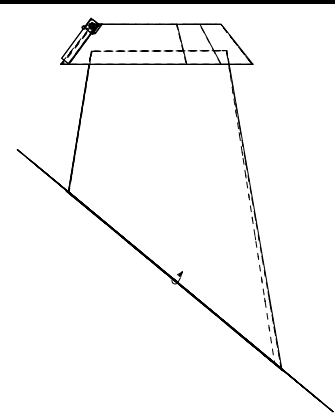

FIGURE 15 **STORM
8. Place the storm collar over the chimney and flashing (see Figure 15). Seal the collar to the chimney with silicone (high temperature not required).